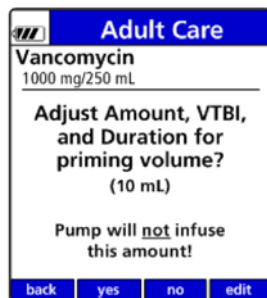

Figure 102. Priming Volume Adjustment Screen.
- Press the **edit** soft key to change amount (mL). See Figure 102.